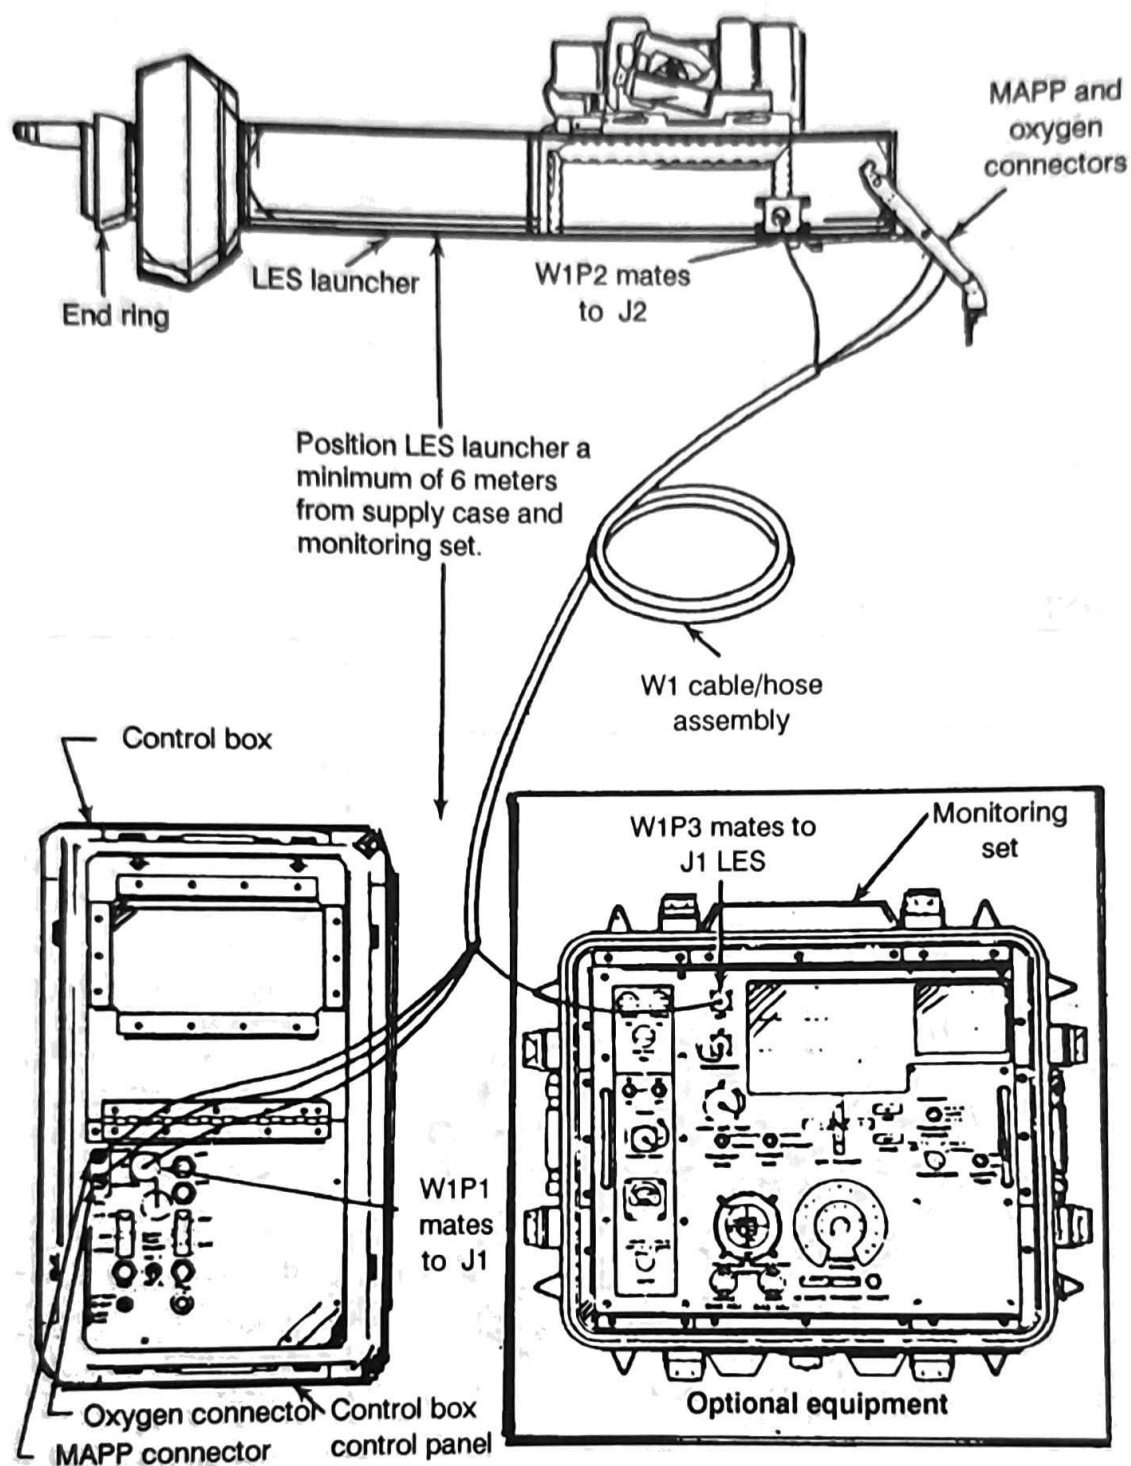

Figure 6-12. Mating the LES to the monitoring set.
4. Mate the LES to the monitoring set IAW NAVTRADEV P-6054. (See Figure 6-12.)